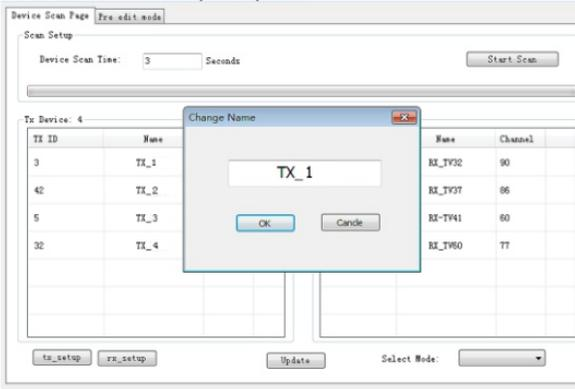

Figure 5
* Device Name setting as Figure 5